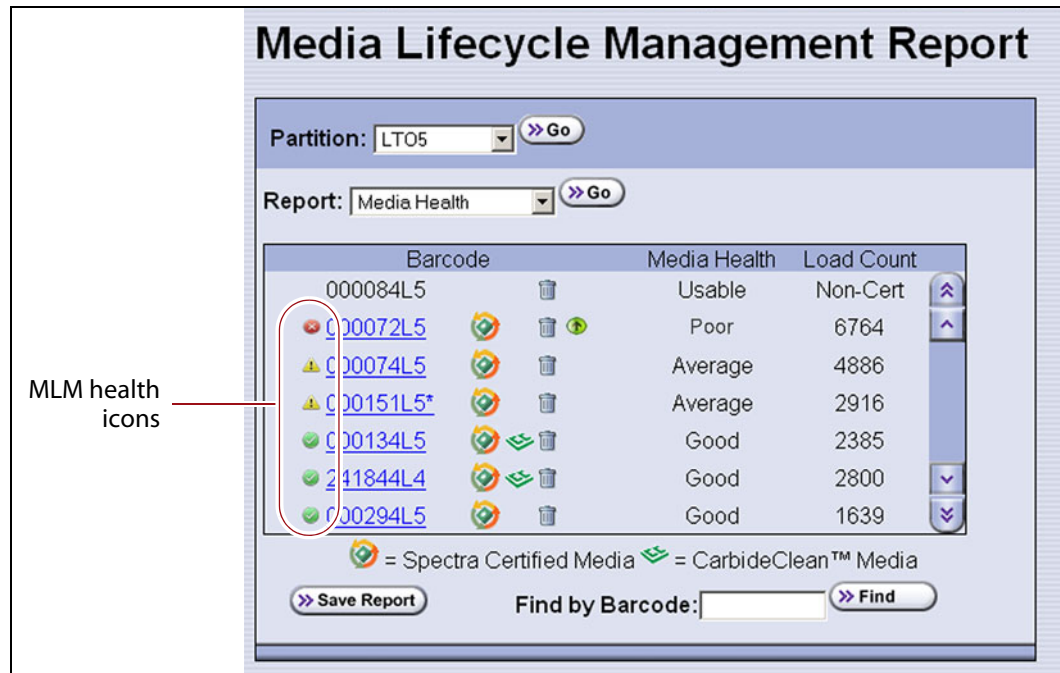

Figure 190 Use the health icons on the Media Lifecycle Management Report screen to quickly assess media health.
- Click **Previous** to return to the main Media Lifecycle Management Report screen (Figure 190 on page 319).
Report Selected Data	Only the fields displayed in the report that you selected on the Media Lifecycle Management Report screen (Figure 190 on page 319). Note: The headings in the saved report reflect the fields displayed in the report you selected in the Media Lifecycle Management Report screen.